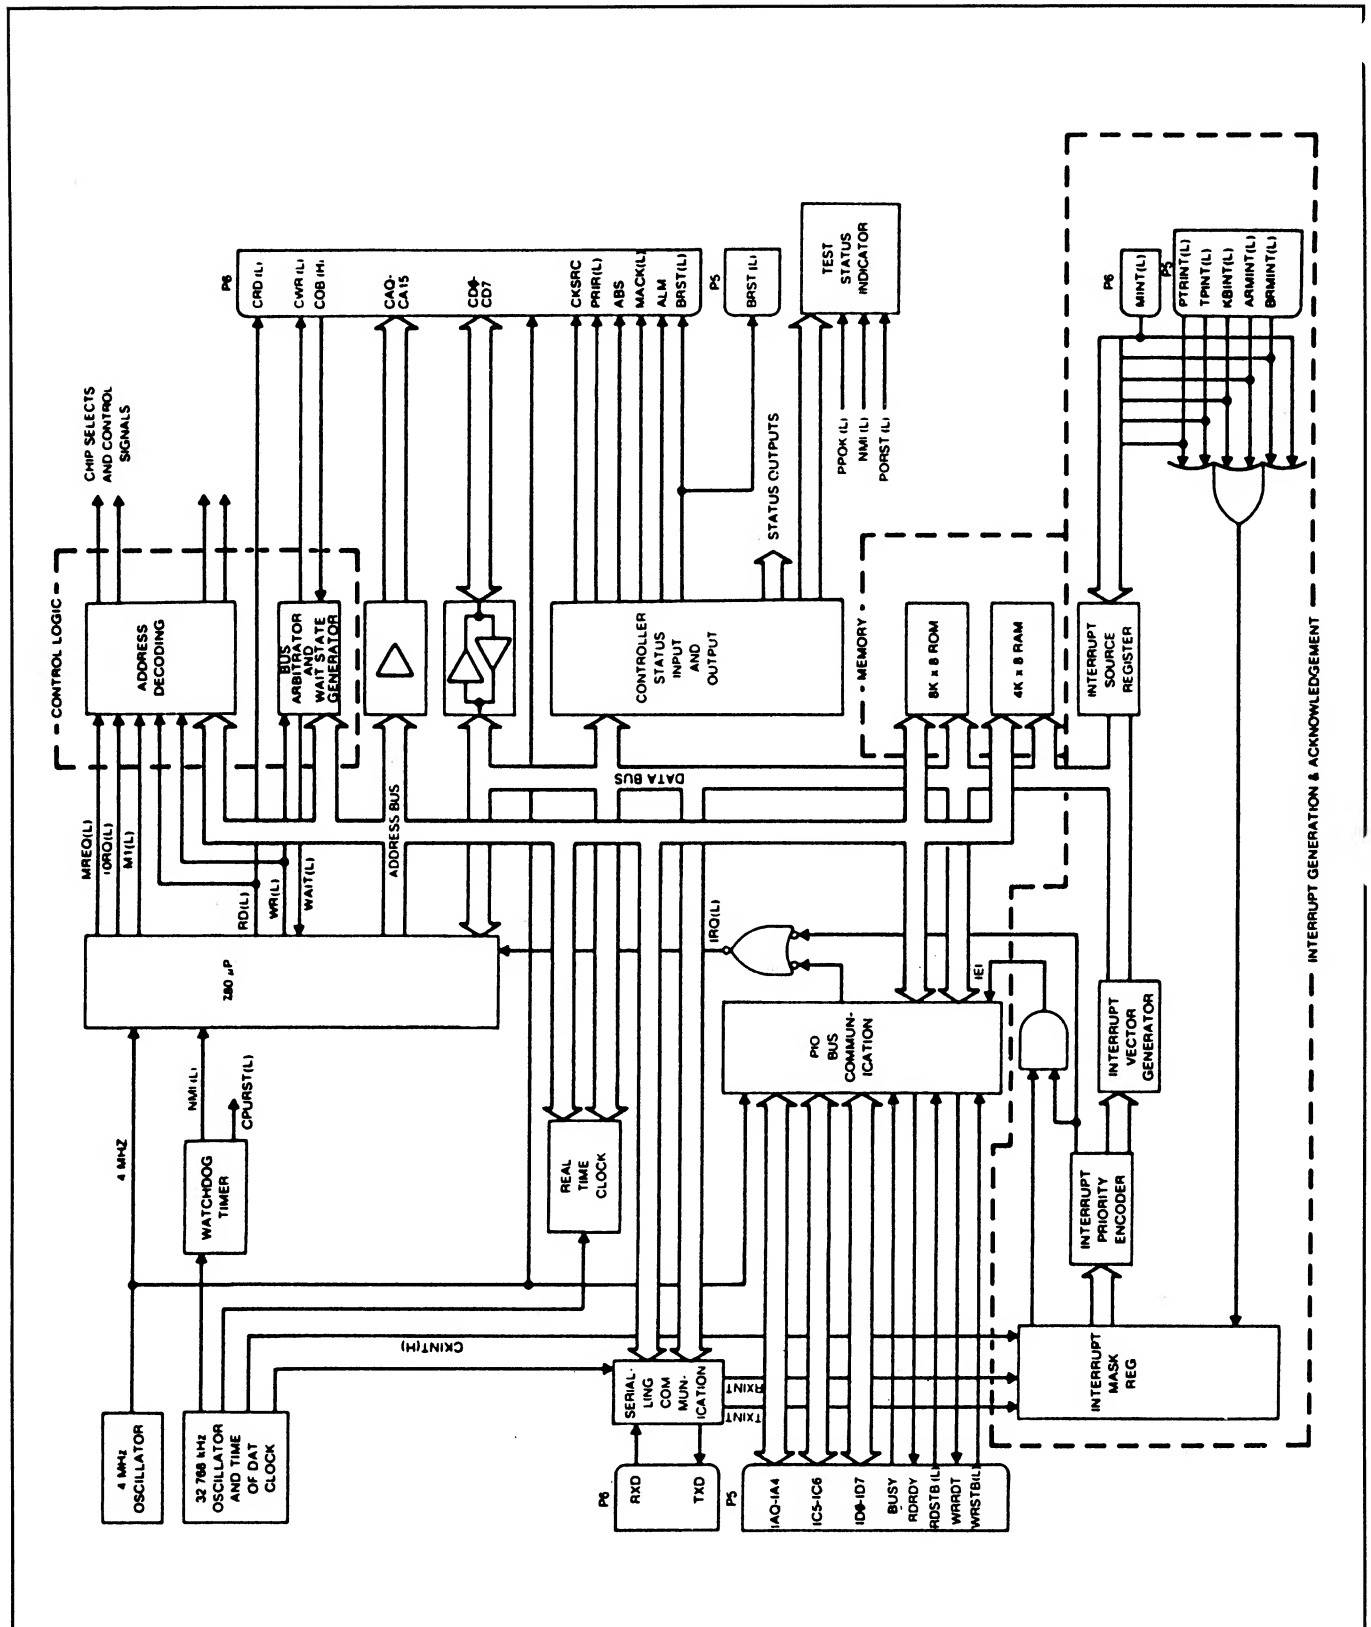

Figure 3-9. Controller Block Diagram
The Controller Assembly is the heart of the 2280 Series Data Logger. It contains the instrument's main microprocessor and control logic, a portion of the RAM and ROM memory, a battery power clock, and a watchdog timer circuit. The Controller Assembly also contains the circuitry required to implement the PIO Bus which is used to communicate with logging and interface devices, and an asynchronous serial communication IC used to communicate with measurement and control devices over the Serial Link. All functions of the Controller Assembly are accomplished by the nine major blocks shown in Figure 3-9. A brief description of each block follows.
An instruction fetch or simple read from ROM causes the Wait State Generator to introduce one wait state (see Figures 3-9 and 3-10). This added wait state compensates for the ROM's longer access time. A ROM access occurs when MREQ(L) and A15 are low. Accesses to RAM on the controller are performed without wait states. Accesses to RAM residing on the Memory Assembly incur 0 or more wait states.